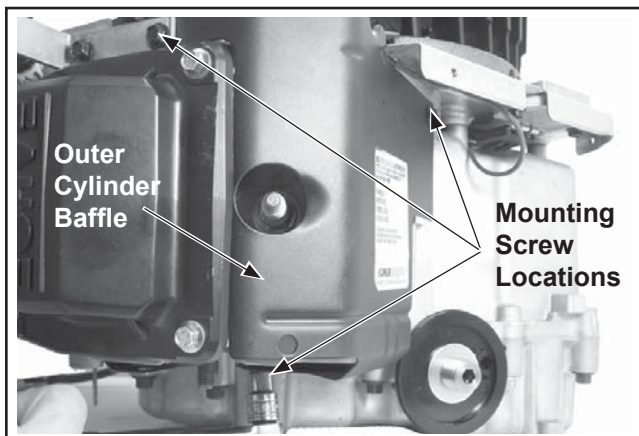

Figure 10-65. Installing Outer Cylinder Baffles.
1. Attach the outer cylinder baffles and secure with the M6 screw (lower cylinder location), and M5 screw into the backing plate. See Figure 10-65. Tighten the screws as listed following Step 2.